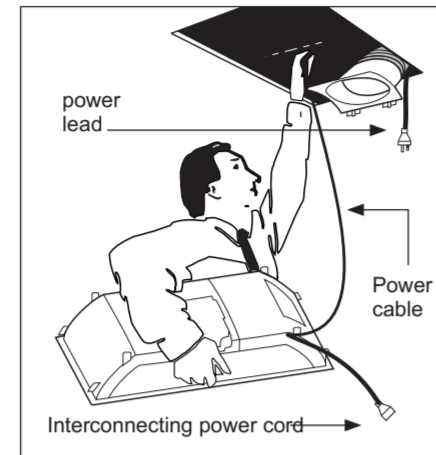

Fig. 20
1. Feed ducting and blower through hole in ceiling. While feeding ducting into ceiling direct it towards the installation position of the outlet grille. Position blower so that the short length of ducting is stretched out and Transition piece along with stripped or terminated wire is sitting next to the hole as per Fig. 20.